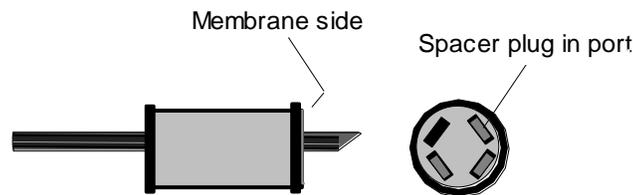

Figure 12 - Flat Drop Grommet
14.04 Cut the flat drop cable at a 45° angle. Firmly hold the grommet in your hand and push the cable through the grommet. See **Figure 12**.